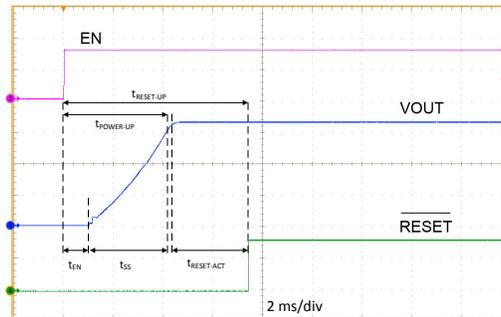

图 8-4. Typical Start-Up Waveform
- A delay has been added between the point at which the output voltage is within specified limits and the flag asserts Power Good. A glitch filter prevents false flag operation for short excursions in the output voltage, such as during line and load transients. See Figure 8-3 and Figure 8-4 for more detail.
A typical start-up waveform is shown in 图 8-4 along with timing definitions. This waveform indicates the sequence and timing between the enable input, output voltage, and RESET. From the figure, the user can define several different start-up times depending on what is relevant to the application. 表 8-1 lists the timing definitions and typical values.